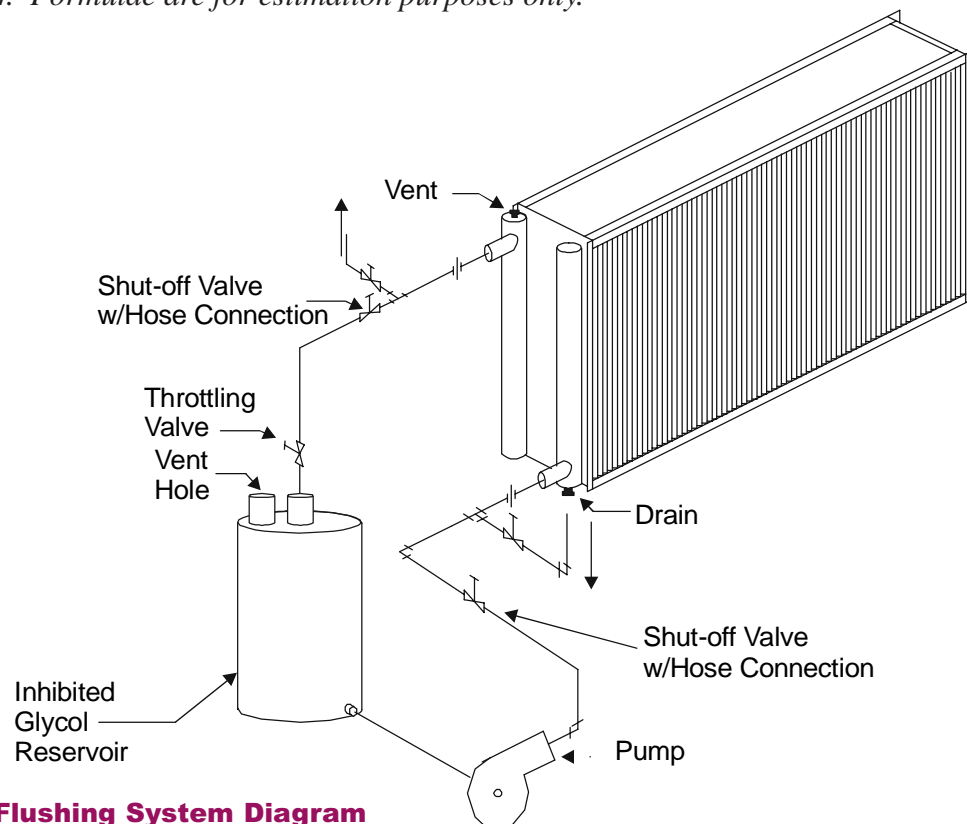

Figure 5 - Flushing System Diagram
6. Connect the flushing system to the coil. A typical system is shown in Figure 5 - Flushing System Diagram.